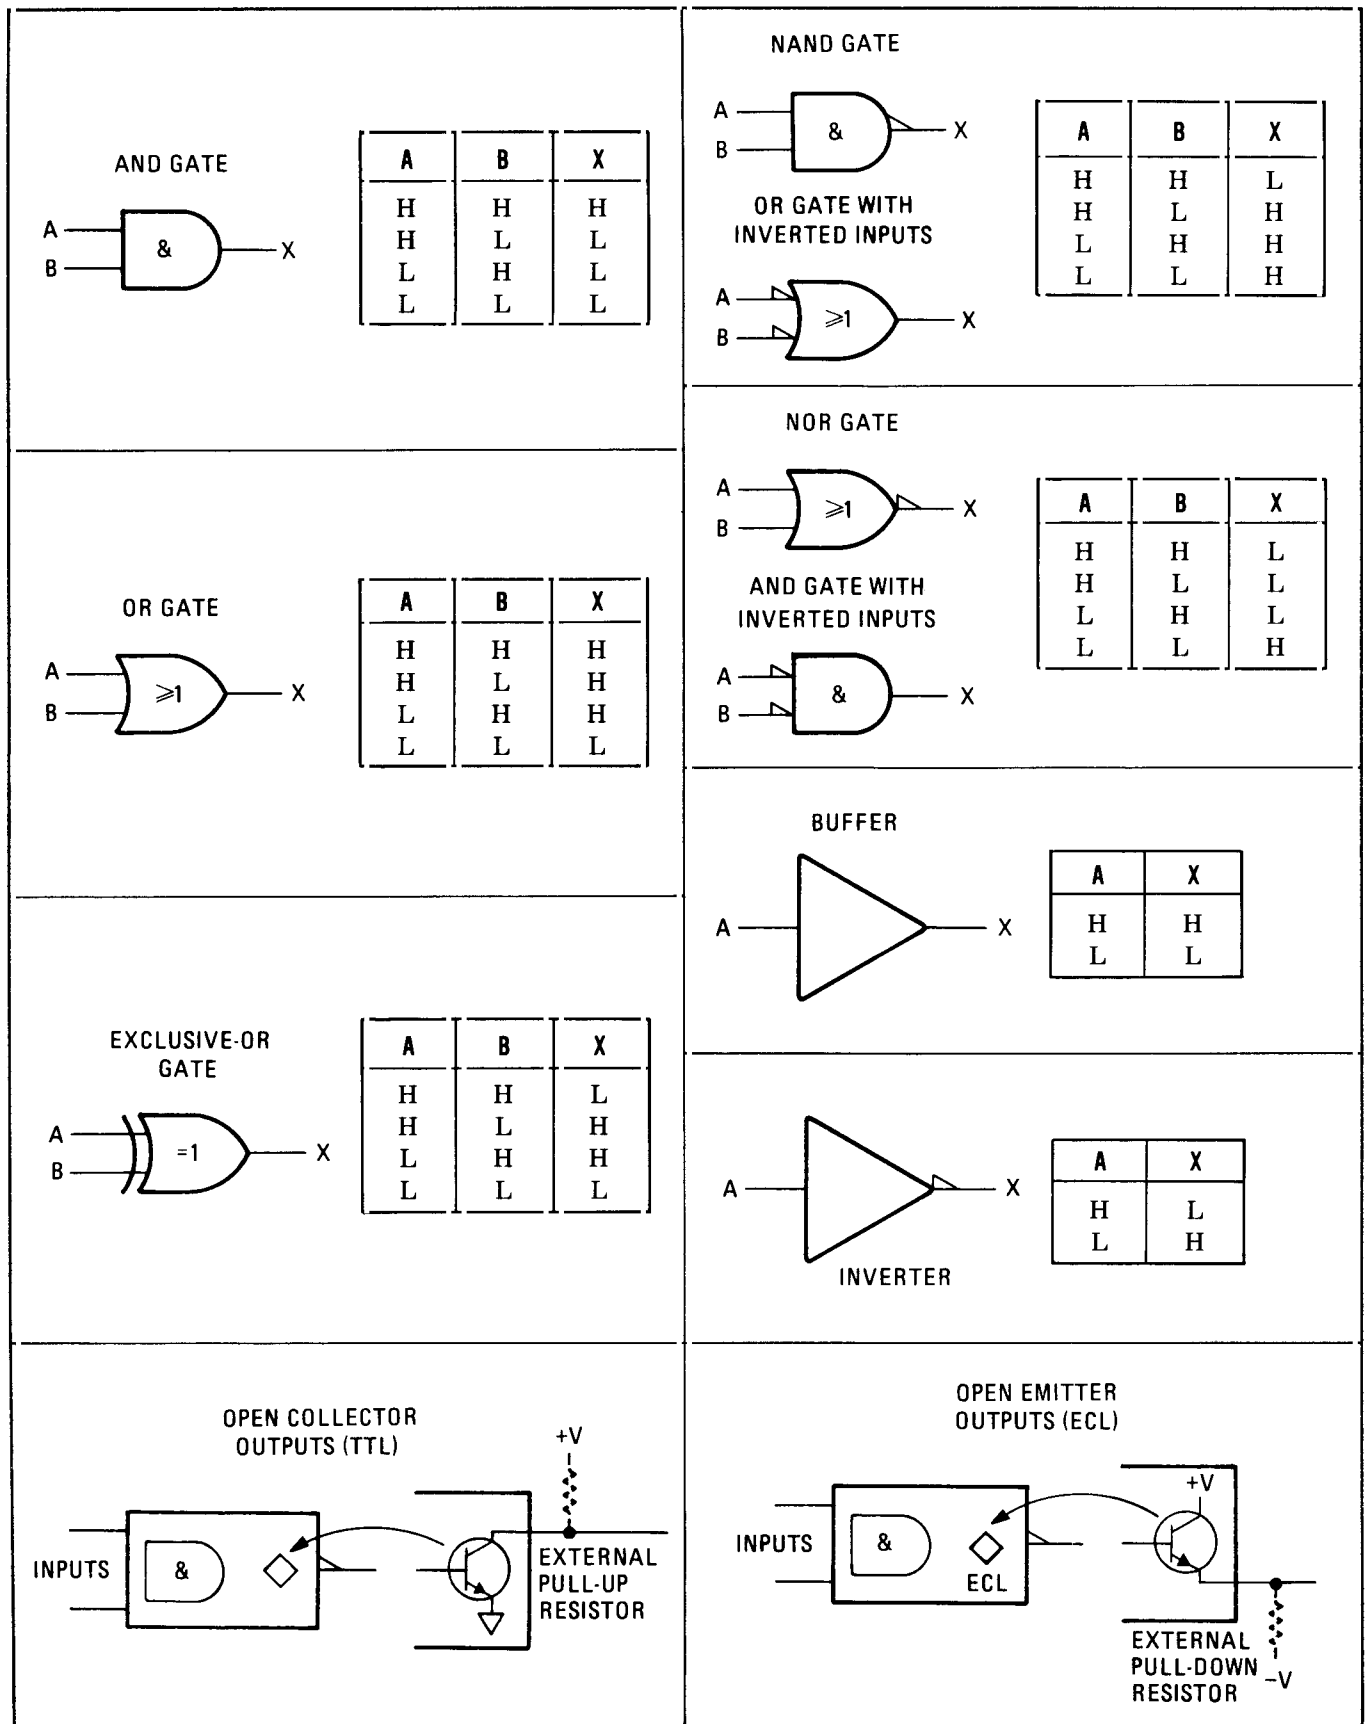

Figure 8-7. Basic Logic Symbols and Qualifiers
**Gates and Qualifiers.** This section includes a brief description of the basic logic symbols used on the service sheets (see Figure 8-7), a summary of indicator symbols (see Figure 8-8), a discussion of contiguous blocks, control blocks, and dependency notation, and a summary of symboly for some of the more complex devices.
Qualifiers are that portion of a device symbol that denotes the logic function. For example, "&" denotes the AND function. See Figure 8-7 for a summary of the basic logic symbols and their qualifiers.